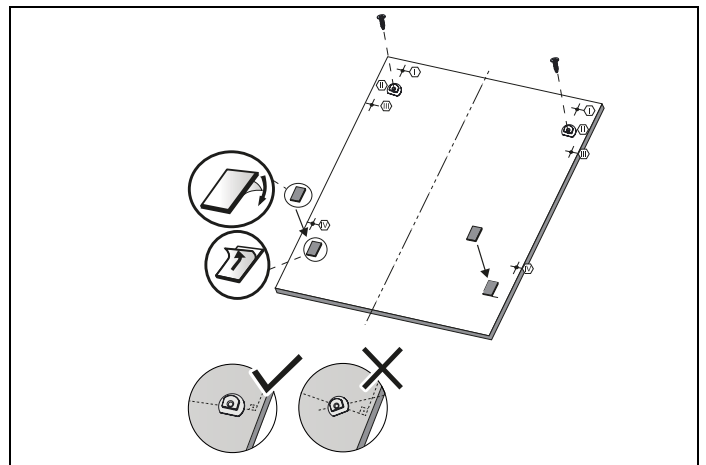

Fig. 27
4) As shown in Fig. 27, door mounting plastics are installed in positions II and Wooden Door Fixing Strips are installed in positions shown in the figure.